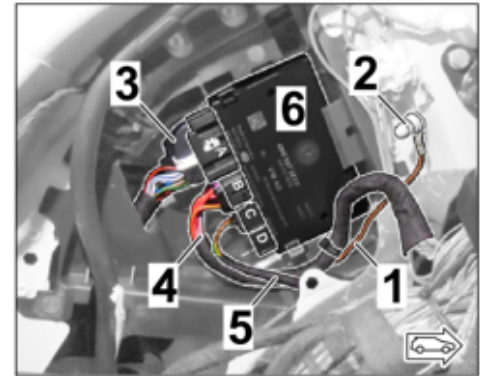

Figure 13
2.5 Install cable ring eyelet A6 at the ground pin MB25. ⇒ *Figure 13 -2-*
2.6 Connect plug connections for connector A / B / C to the trailer hitch control unit (⇒ *Figure 13*).